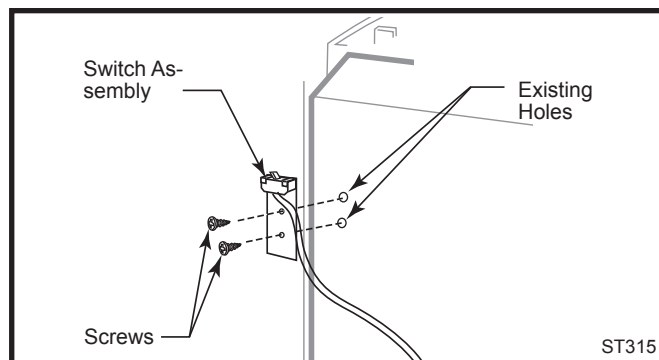

Fig. 42 Attach switch assembly to rear shroud.
1. Attach switch assembly to left rear side of stove shroud (when facing shroud) using two screws and existing holes in shroud. (Fig. 42)